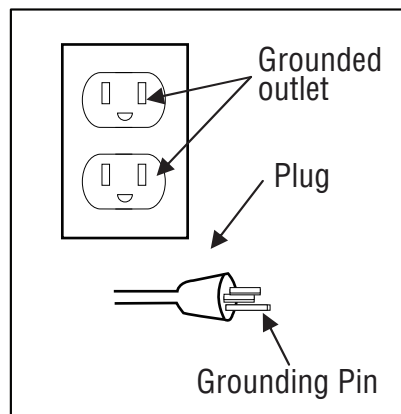

Figure 1
J. POWER CORD : This product is for use on a nominal 120-volt circuit and should be grounded. A cord with a grounding plug must be used. Make sure the product is connected to an outlet having the same configuration as the plug (see Figure 1). No adapter should be used with this product.